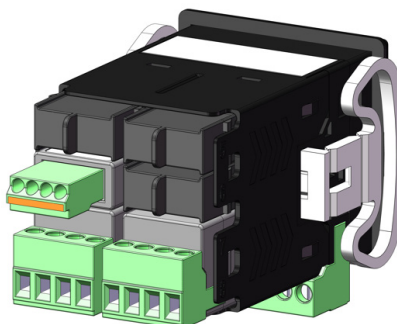

Figure 10 – Protecting slots
- **Thermocouples:** Figure 10 shows the connection mode for thermocouple sensors. If you need to extend the thermocouple wires, use appropriate compensating cables.